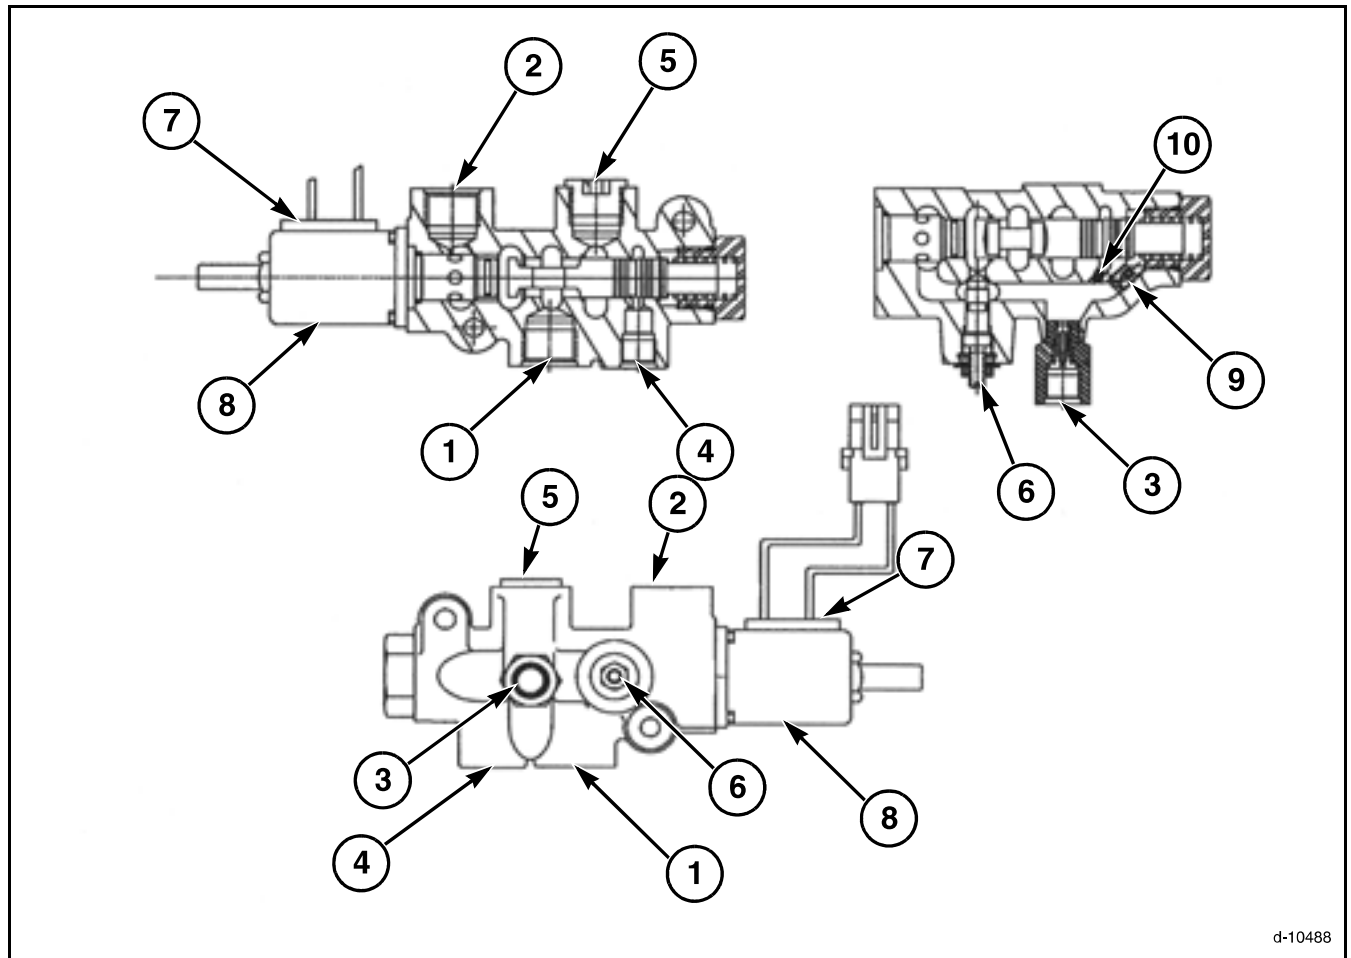

FIG. 141
FIG. 141: The pressure flow compensated hydraulic pump driven by the engine provides hydraulic flow to the IN port (1) of the reel speed control valve. The hydraulic flow is supplied by teeing into the main control stack valve.